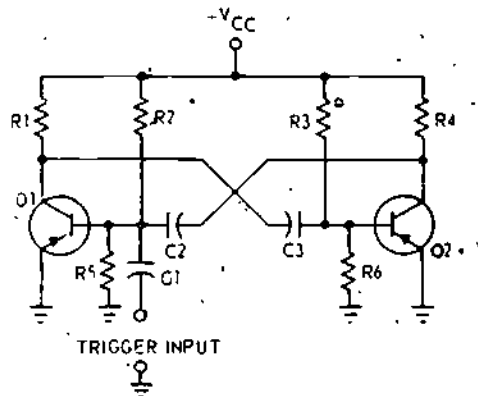

Figure 13
Questions 5 thru 7, refer to Figure 13 and Chart 10.
5. The circuit in Figure 13 is correctly identified as a (triggered, free-running) (Astable, Monostable, Bistable) multivibrator.